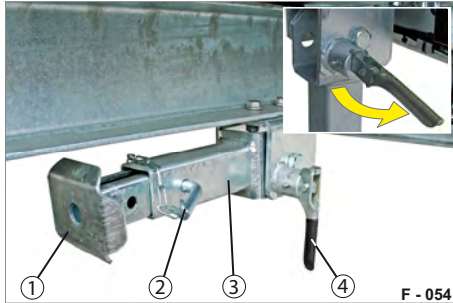

Fig. 38 Folding out the folding support
- ▶ Pull on the spring bar (Fig. 38/4). The folding support (Fig. 38/3) is unlocked. This automatically folds downwards.
- ▶ Release the spring bar (Fig. 38/4). The spring bar locks automatically when the folding support is completely folded out.